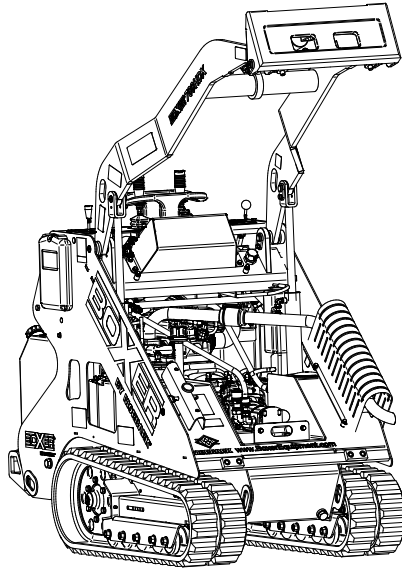

Figure 4-7 Hydraulic Fluid Level Dip Stick
- b. Unscrew the dipstick assembly and remove from the machine. (Item 1, Figure 4-7).